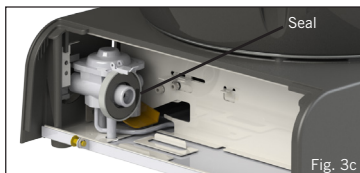

Fig. 3c
- If bubbles form, then there is a gas leak. Immediately remove the gas cartridge from the appliance. Check that all the connections are properly fitted. Check that the seal is in place and in good condition before connecting a gas cartridge (Fig. 3c). Re-check with soapy water after refitting the cartridge.
- Check that the seal (Fig. 3c) is in place and is in good condition before connecting the cartridge.